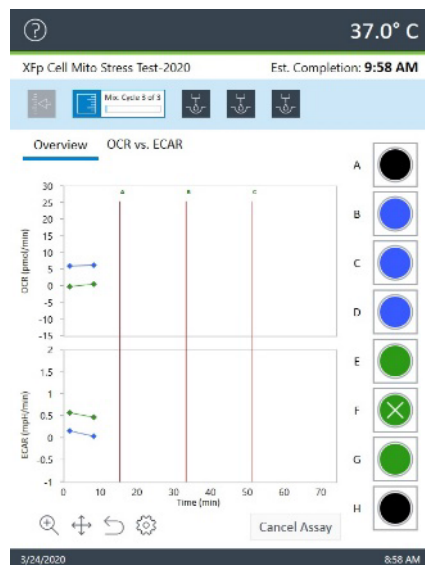

Figure 8. Overview tab.
- 6 Click either the **Overview** or **OCR vs. ECAR** tab to toggle between the views during the assay. See **Figure 8** on page 19. Overview and OCR versus ECAR are the two run-time views available as data is acquired by the XF HS Mini Analyzer.
The **Overview** tab displays both OCR and ECAR as a function of time. Red vertical lines indicate the injections and are labeled by injection port letter. See **Figure 8**.